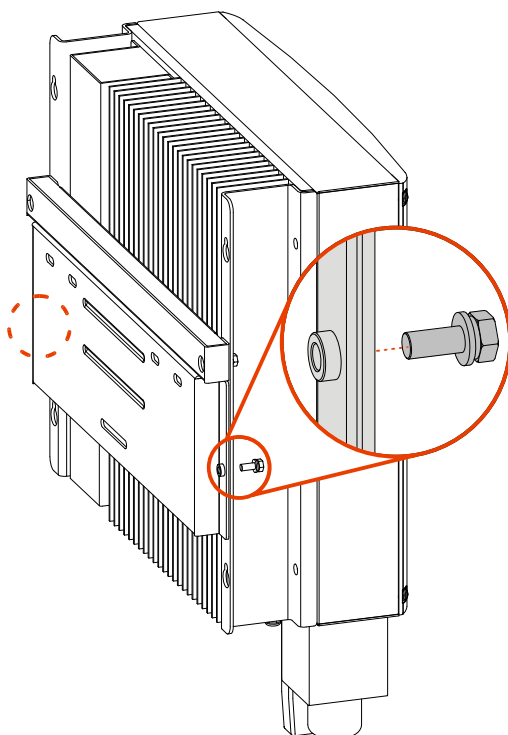

Figure3-7 Fasten the inverter
Step 6 As shown in Figure3-7, fasten the inverter to the installation holder in the two sides of the inverter by equipped bolts M6*16.